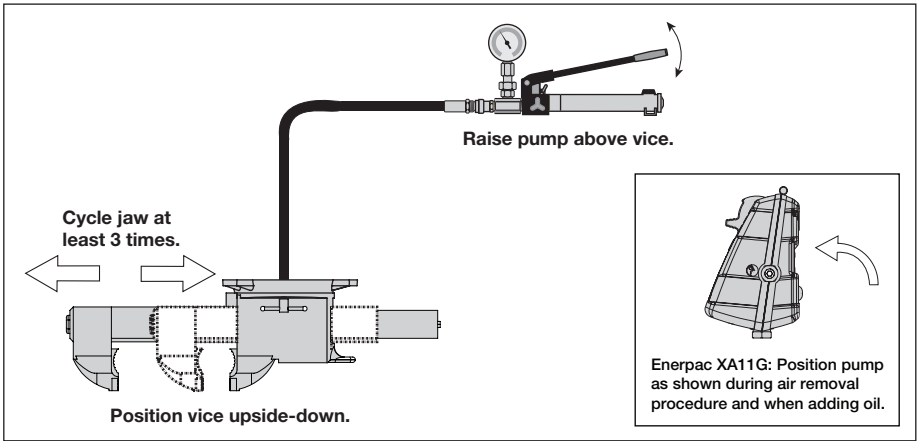

Figure 5 - Air Removal.
2. Place the vice on the ground and position it upside-down. See Figure 5.
4. Raise the pump above the vice. See Figure 5.
7. **ENERPAC MODEL XA11G:** Place the pump in the vertical position as shown in Figure 5. Remove the oil fill plug to allow any trapped air to escape. Check pump oil level. Add oil if level has dropped. Use only Enerpac oil.